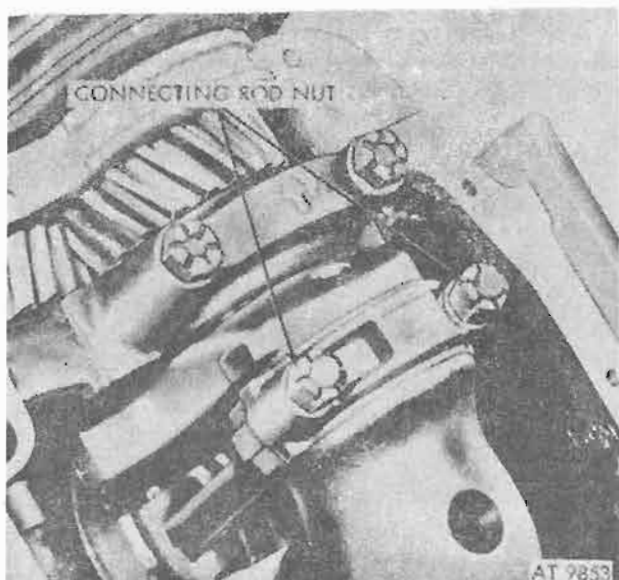

Figure 4-94. Connecting rod retaining nuts.
c. Connecting Rod Retaining Nuts. Turn crankshaft until piston of connecting rod being removed is at bottom of cylinder bore. Remove selflocking hex nuts from connecting rod bolts (fig. 4-94).